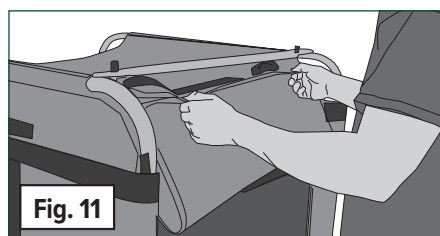

Fig. 11
2. **(Fig. 11)** Open the inner buckles and pin the upper flap onto the Velcro strips at the top of the bag.